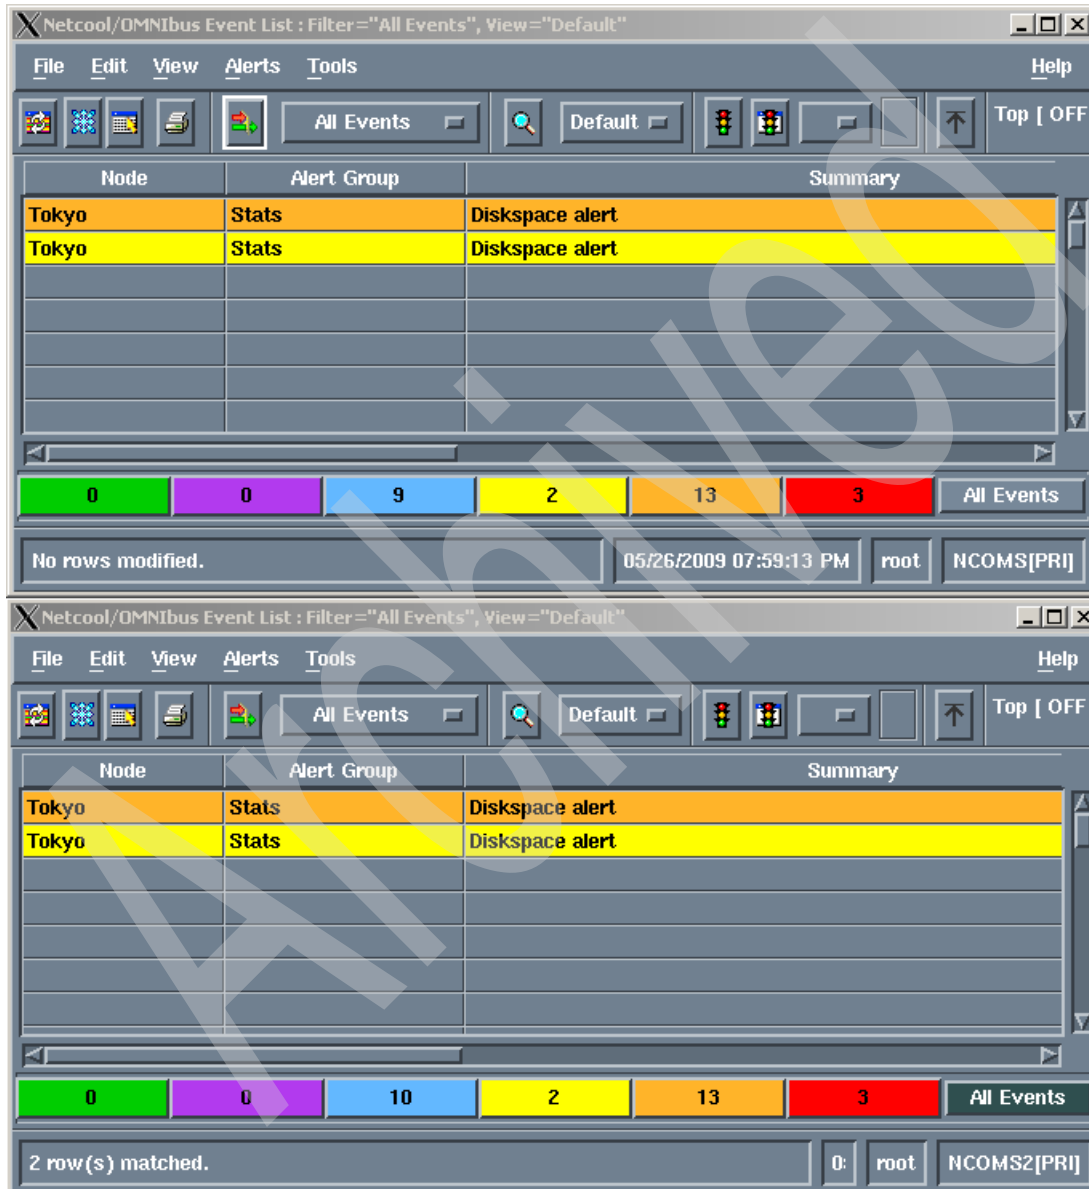

Figure 4-10 AEL on both servers
- a. Open two separate event lists on both servers, as shown in Figure 4-10.